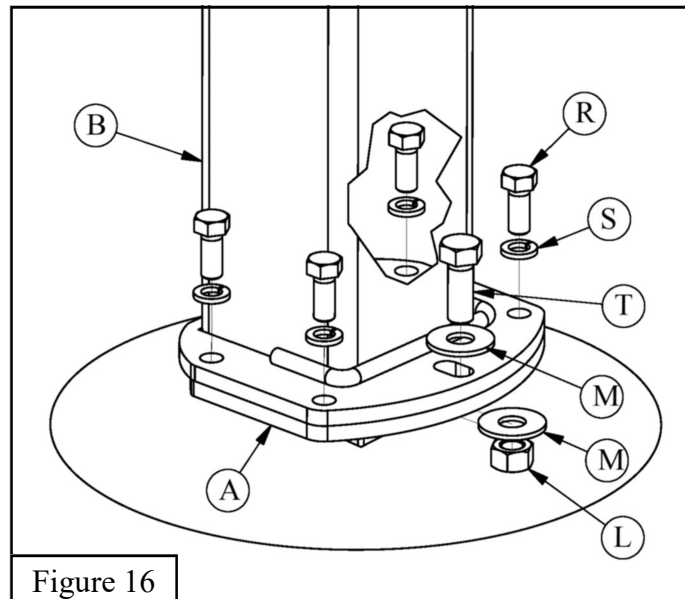

Figure 16
9. Prior to proceeding to instruction #10 swing the *Pole* (B) to the vertical position and confirm that the four 5/8" X 1 1/2" Hex Bolts (R) will thread into the threaded holes in the *Ground Anchor* (A). See Figure 16.